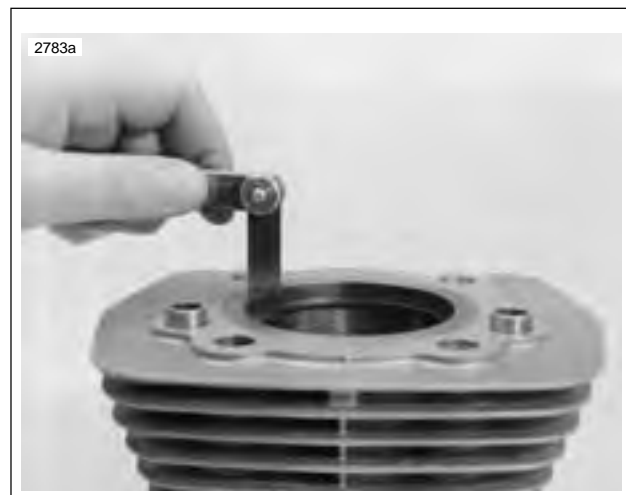

Figure 3-72. Measuring Ring End Gap
1. See 3.1 SPECIFICATIONS. See Figure 3-72. Place piston in cylinder about 1/2 in. (12.7 mm) from top. Set ring to be checked squarely against piston as shown. Check end gap with thickness gauge.